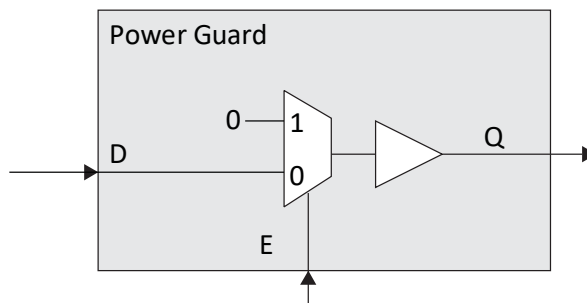
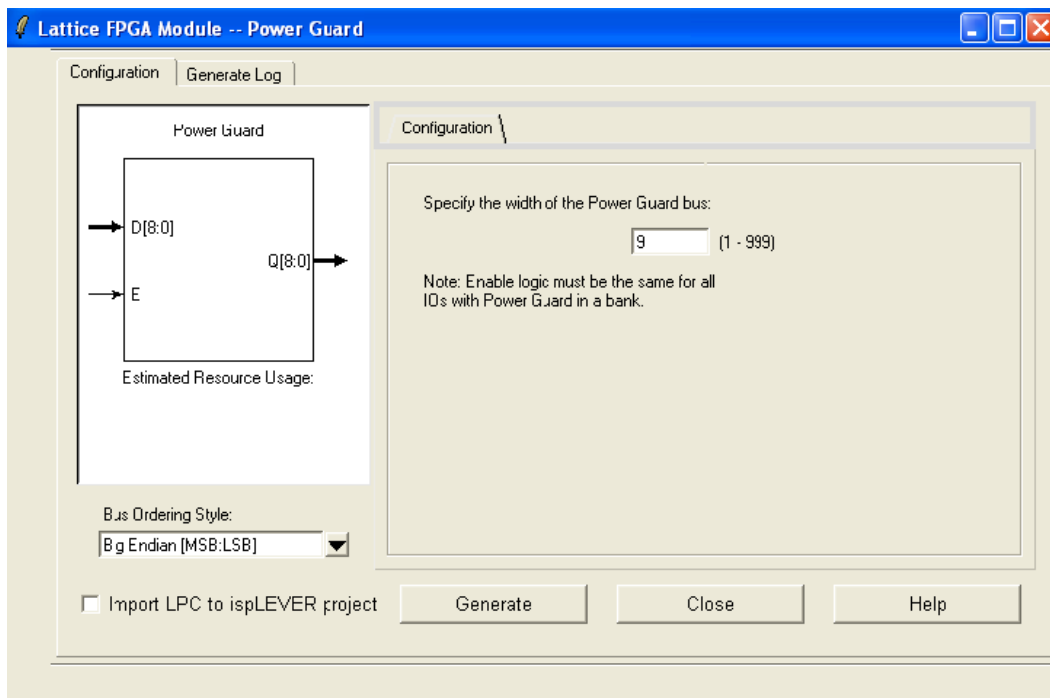

Figure 5.1. Power Guard Primitive
Figure 5.2. IPexpress Power Guard
The Power Guard (PG) feature minimizes dynamic power consumption on routing by gating signals at the input pin. To prevent this loss, especially on large fan-out or heavily loaded nets like clocks, inputs can be “Power Guarded”. Power Guard prevents logic from getting on nets using an active high control signal. The Power Guard primitive component, as shown in Figure 5.1., can be included in your clock or data paths. For large buses, IPexpress can be used as shown in Figure 5.2.